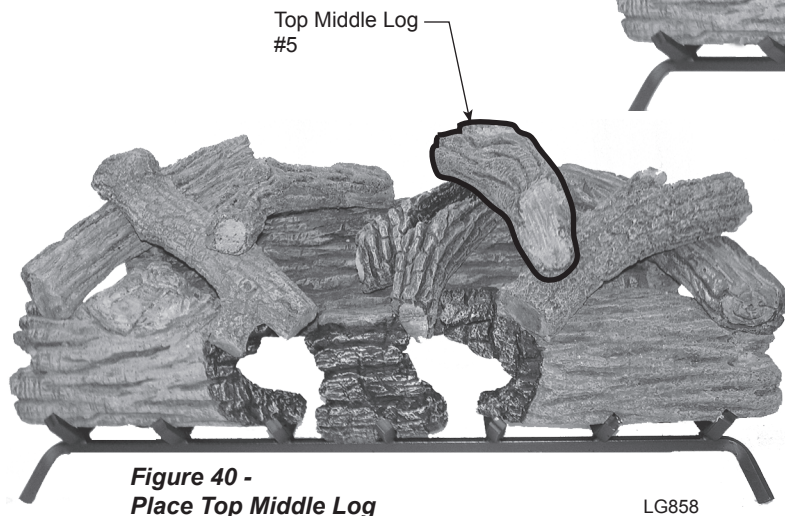

Figure 40 -
- 12. Install top middle log #5. *Figure 40*